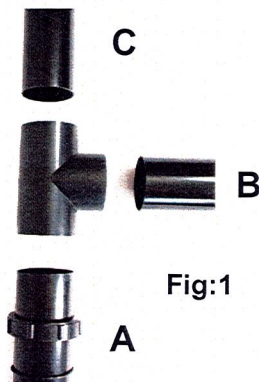

Fig:1
2. Cut pipe (A) to the correct height of your outlet pipe on your pond.
3. Cut pipe (B) to the correct length of pipe from your dome to your outlet of your pond.
4. Cut pipe (C) so it is above water level (minimum 100mm) this tubing is to eliminate a vacuum from being cased inside the system, the pipe allows the system to vent to the atmosphere.
5. Connect pipe (A), (B) and (C) to the tee (shown in fig:1) then connect pipe (A) to the dome, using the 'o' ring and nut supplied.